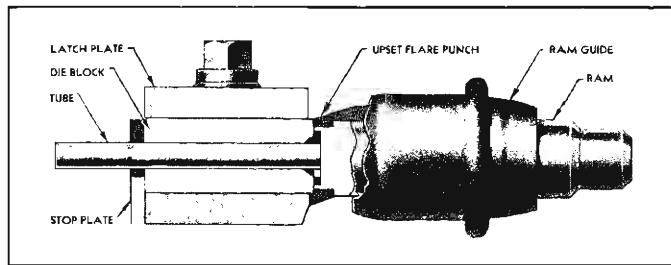

Fig. 9—Flaring Operation—Positioning Tubing
5. Select the correct size upset flare punch. One end of this punch is counterbored or hollowed out to gauge the amount of tubing necessary to form a double lap flare. Slip the punch into the tool body with the gauge end toward the die blocks. Install the ram; then tap lightly until the punch meets the die blocks and they are forced securely against the stop plate (fig. 9).